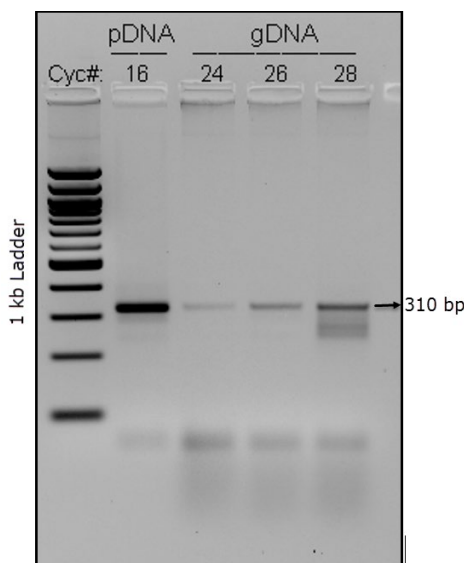

Figure 9. Example of agarose gel from sgRNA target amplification during PCR cycle optimization.
16. Analyze 2 µl of PCR product from each stopping point for the Optimization reaction (22, 24, 26, and 28 cycles, respectively) and the 28-cycle NTC reaction on a 3% agarose gel in 1X TAE along with 500 ng of 1 kb DNA Ladder. See Figure 9, below, for an example.
18. Determine the optimal cycle numbers for further processing of the Experimental reactions (for example, in Figure 9, the 24-cycle Optimization reaction provided sufficient yield for purification and sequencing without background).